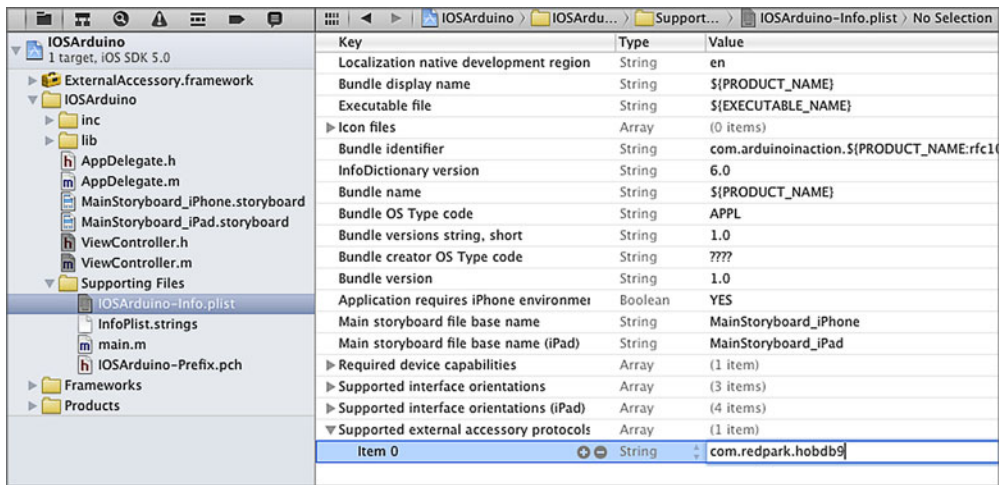

Figure 10.13 Declaring support for the Redpark serial cable
The final step of the Xcode application, from a tip by Brian Jepson, is to declare support for the Redpark serial cable. In the project navigator, expand the Supporting Files group and click `IOSArduino-Info.plist` to open it. Right-click the bottom row, and from the context menu select `Add Row`. Select `Supported External Accessory Protocols` from the list. Click the triangle to the left of the key name to open up the list. In the value field for item 0, type `com.redpark.hobdb9` (see figure 10.13). Select `File > Save` from the menu to save the file.